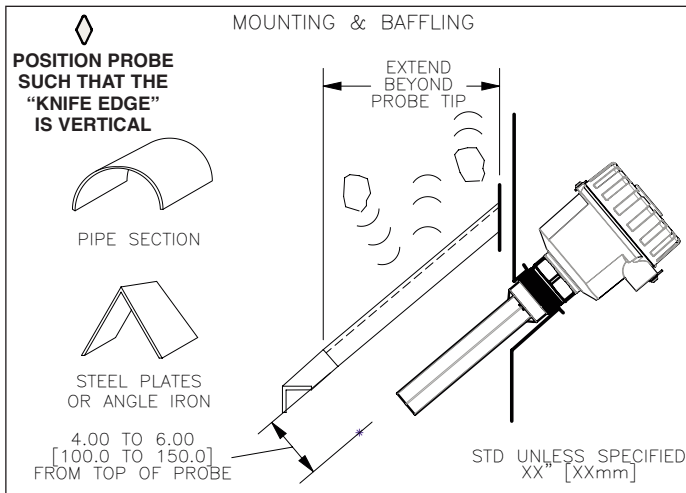

Figure 4
**Protective Baffles:** (See Figure 4)
**Probe Mounting:** (See Figure 4)